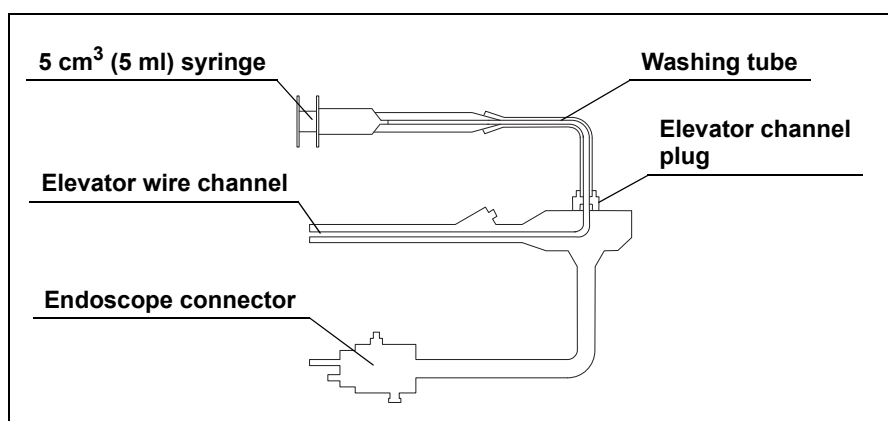

Figure 7.39
2. Use the 5 cm³ (5 ml) syringe to inject 15 cm³ (15 ml) of detergent solution into the elevator wire channel via the washing tube (see Figure 7.39).
5. Attach the 5 cm³ (5 ml) syringe to the washing tube and flush the elevator wire channel with 5 cm³ (5 ml) of clean water (see Figure 7.39).
9. Use the 5 cm³ (5 ml) syringe, to flush the elevator wire channel with 10 cm³ (10 ml) of air via the washing tube (see Figure 7.39).